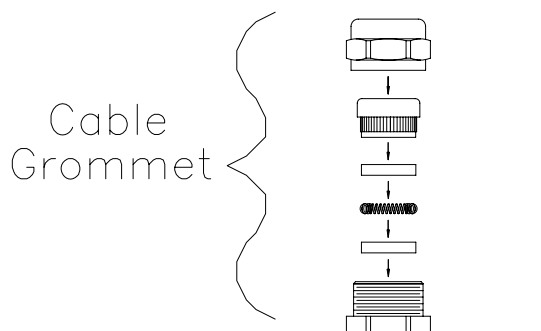

Figure 14: Cable Grommet
1. Remove the cable grommet hardware from the desired I/O connector housing (see Figure 14).
4. Slide the cable grommet hardware onto the cable in the order shown in Figure 14.